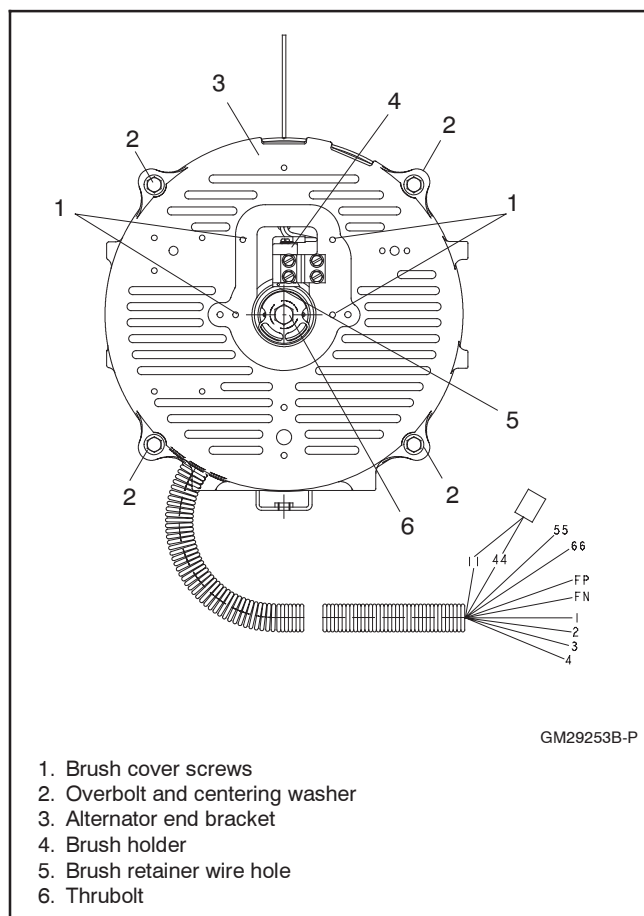
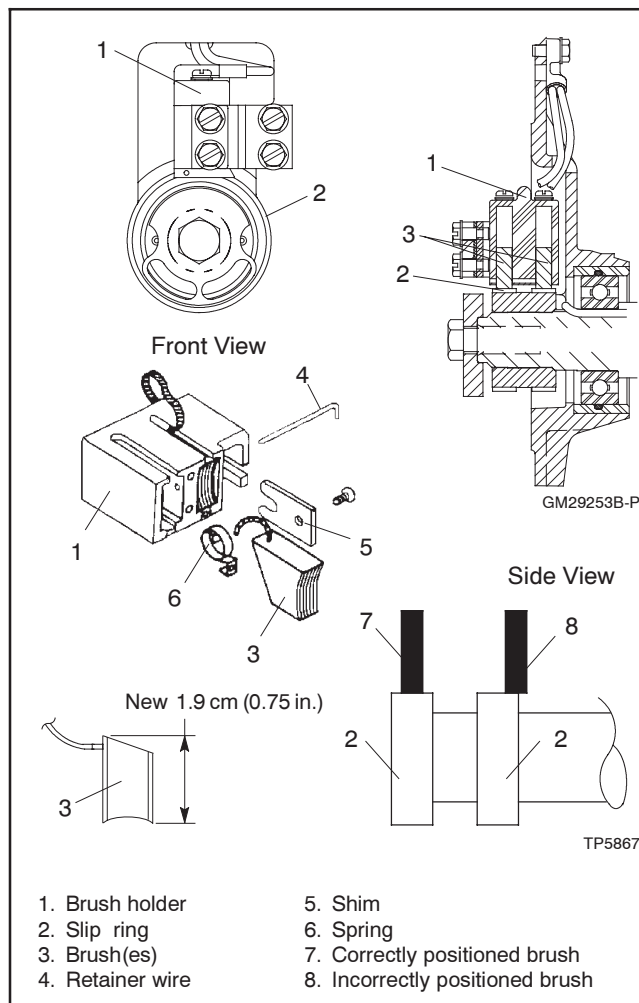

Figure 7-10 Alternator End Bracket
Figure 7-11 Brush Details
- c. Remove 4 screws securing the brush cover to the alternator end bracket. See Figure 7-10.
retainer wire hole. See Figure 7-10 and Figure 7-11.
- e. Remove the alternator overbolts and centering washers. See Figure 7-10.
- a. Remove the brush holder from the end bracket. See Figure 7-10.
- b. Inspect the brushes. Replace brushes when they are worn to half of their original size. See Figure 7-11 and Section 6.6, Brushes.